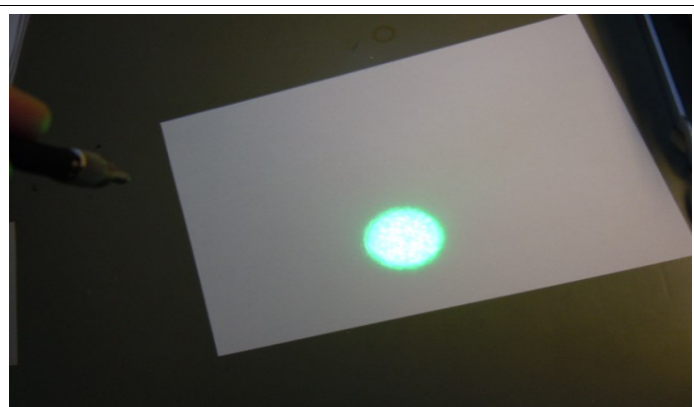

Figure 52:
- adjust the fiber position with the X- and Y-adjustment screw **for fiber** (see Figure 71: optocoupler position ). Step by step till you see a good laser spot with maximum brightness like Figure 52:
- Note: if the output power increase, increase also the distance to the paper to about 40cm (see Figure 52:)